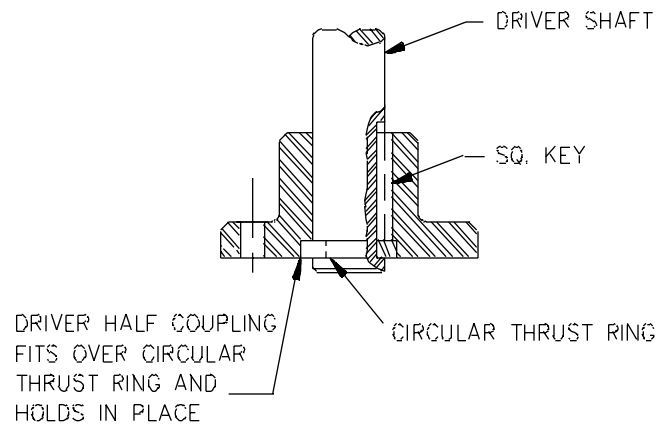

Fig. 3.5 Driver Half-Coupling Correctly Positioned
4. Install driver half-coupling on driver shaft (See Figures 3.5 and 7.1 for coupling illustrations):
- c. Install circular thrust ring in shaft groove - when properly positioned the half-coupling will slip down over the circular key and hold it in position see Figure 3.5.
CAUTION: Before jogging motor make sure coupling halves are not touching, and that the motor shaft end is sufficiently clear of pump shaft and adjusting nut, and that the driver can rotate freely without rotating the pump. The driver half-coupling must be in proper position as shown in Figure 3.5 so the circular thrust ring will not come out.